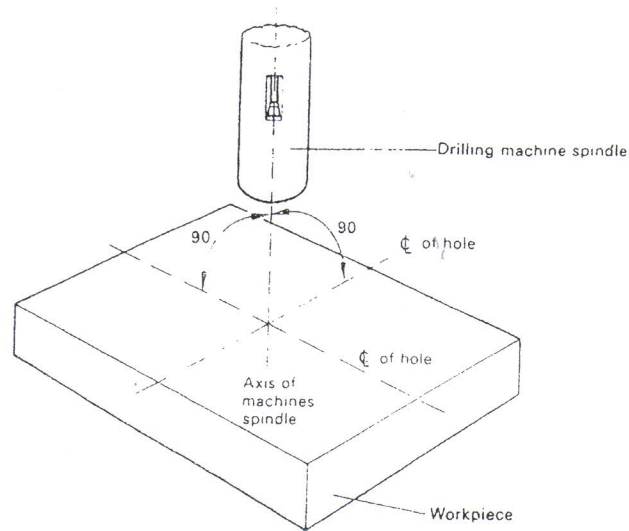

Figure 2: Basic drilling alignments
- (a) With reference to Figure 2 (basic drilling alignments), explain briefly the four (4) basic drilling conditions in order to get the correct position while drilling a hole on a workpiece.